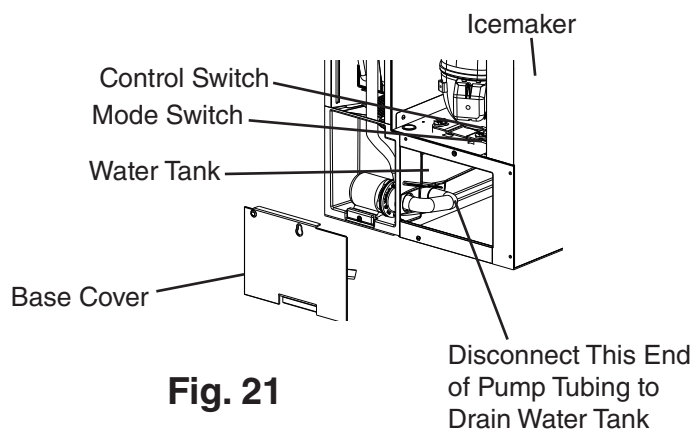

Fig. 21
- 3) Remove the base cover, then disconnect one end of the pump tubing to drain the water tank. See Fig. 21. After the water tank has drained, reconnect the pump tubing.